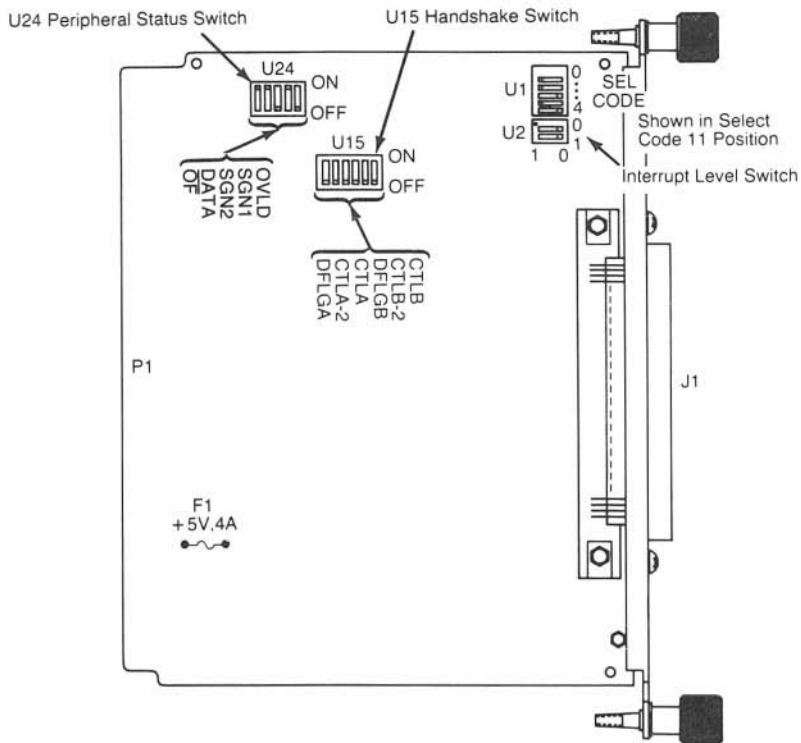

Figure 5-6. HP 98623A BCD Interface switches.
- a. Find the set of five switches labeled U1 on the BCD Interface (see Figure 5-6). This group of switches determine the interface's select code.
- Set the Interrupt Level switches, labeled U2 on the card, to interrupt level 3 (00) as shown in Figure 5-6.